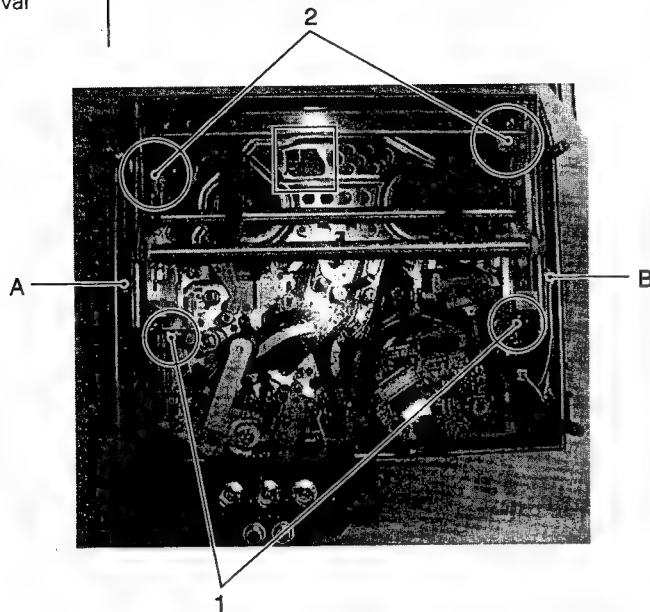

Fig. 2-6-2
2. Remove connectors A and B (see Fig. 2-6-2).